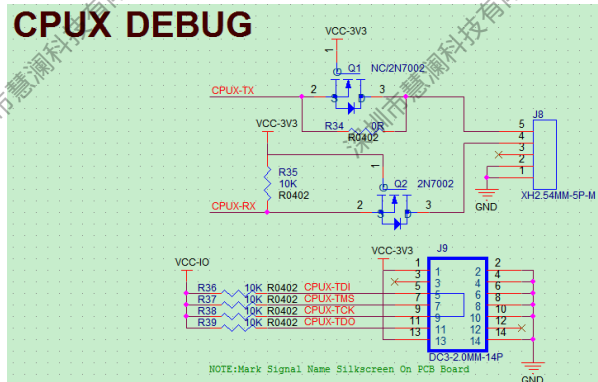

Figure 2-50 CPUX Debugging Interface
- The JTAG debugging interface and UART interface of CPUX can come out from the PB and PF ports of the SoC respectively. At least one of the interfaces must be reserved for both development debugging and the analysis of the mass production problem. For the products with TF card function, suggest that the PB port also reserves test points as much as possible to increase problem analysis and debugging channels, the mass production does not need to mount components. The UART interface is suggested that add an anti-leakage circuit to avoid leakage between the prototype and the computer during the long-term aging test, which may cause the machine to work abnormally or the computer to hang up. As shown in Figure 2-50.